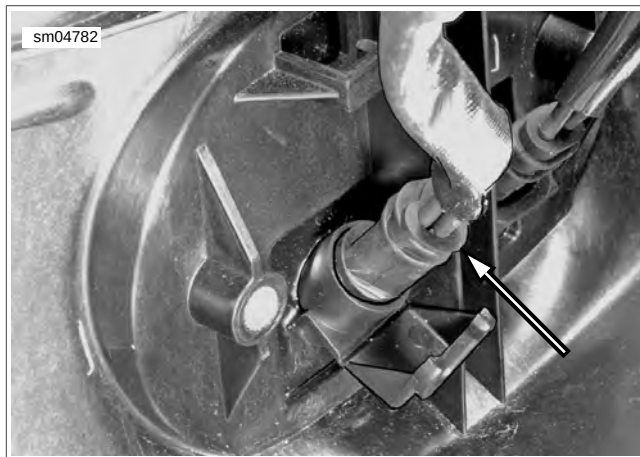

Figure 7-29. Voltage Regulator Connector
4. See Figure 7-29. Release locks on wiring connectors [47] and [77] and remove connectors from back of regulator.